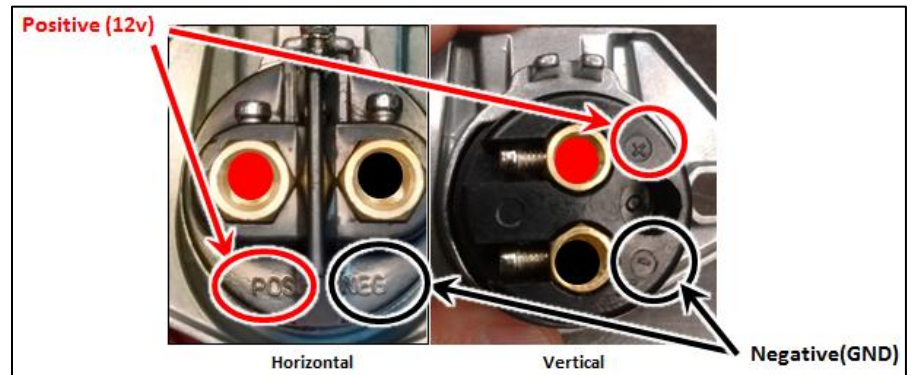

Figure 3: Dual Conductor Socket Terminal Labelling
- Pay particular attention to Plug terminal labelling to ensure Battery (+)/POS and Ground (-)/NEG are correct as shown in **Figure 3**.